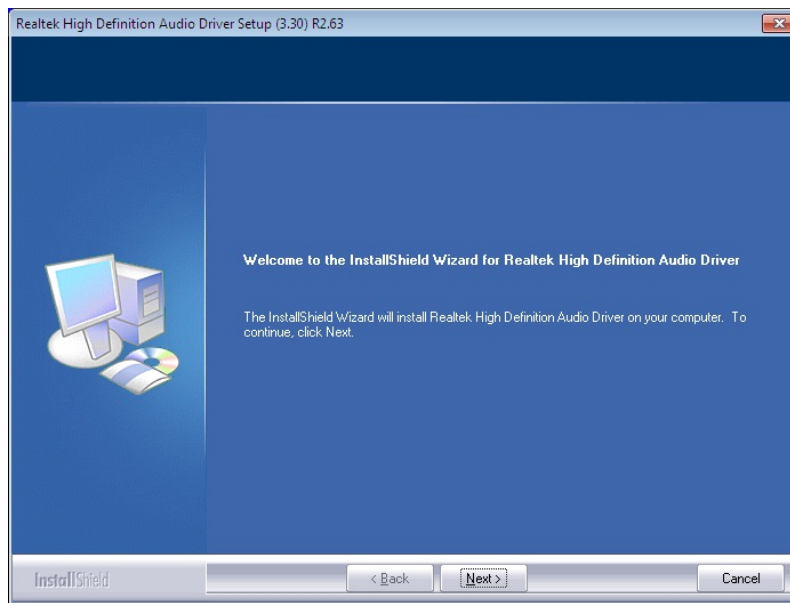

Figure 6-16: Audio Driver Welcome Screen
Step 6: The **Welcome** screen in **Figure 6-16** appears.